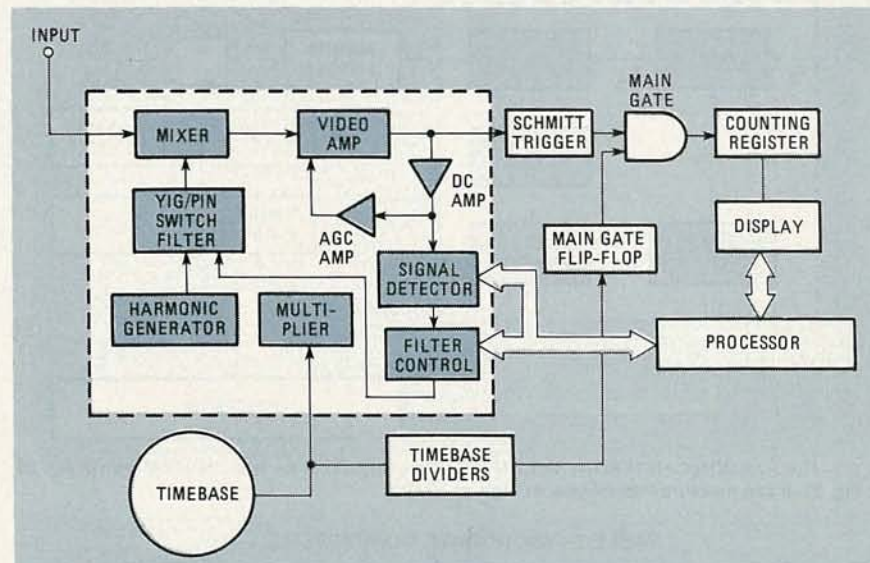

FIG. 25—THE HETERODYNE DOWN-CONVERTER is one way of measuring the frequency of microwave signals as high as 20 GHz.
*Heterodyne down-conversion* entails mixing the incoming microwave signal with the output of a high-stability oscillator. Doing that yields a difference frequency that is within the usual 500-MHz frequency-counter bandwidth. The basic process is illustrated in Fig. 25. The timebase oscillator is fed not only to the main gate flip-flop, as in the basic frequency counter, but to a frequency-multiplier that generates a "comb line" of signals spaced at regular intervals out to the maximum range of the frequency counter.